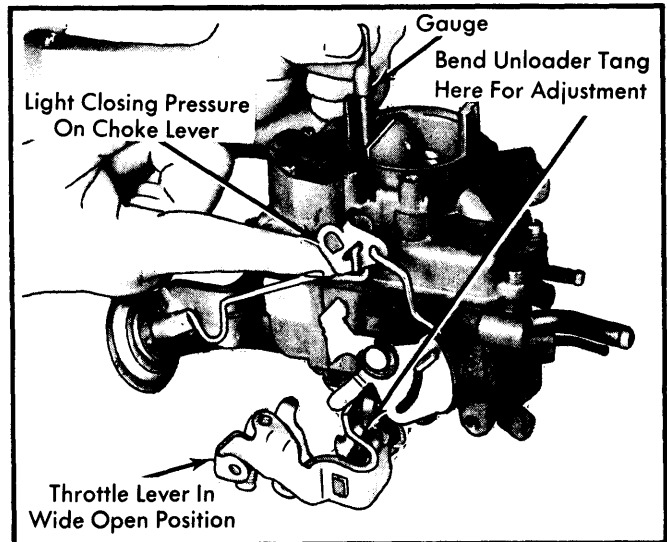

Fig. 4 Adjusting Choke Unloader
1) Hold throttle valves in wide open position. Hold choke valve toward closed choke position by applying light closing pressure to choke lever. See Fig. 4.